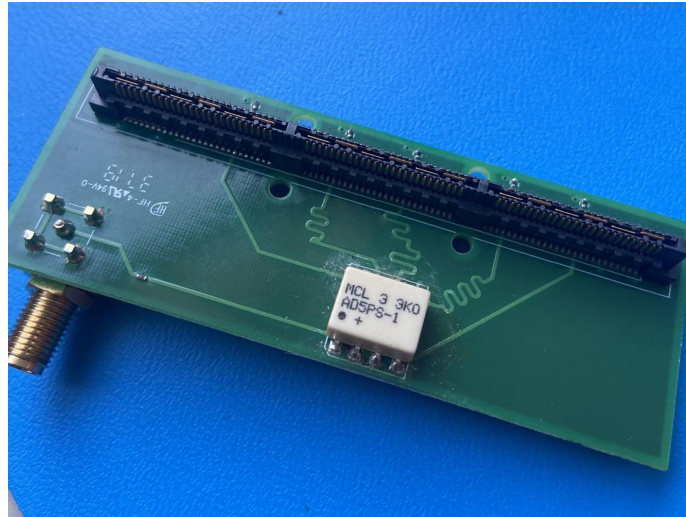

Figure 7: SAMTEC-SMA Card
- (b) A SAMTEC-SMA card.⁵ See Fig. 7 for an example.